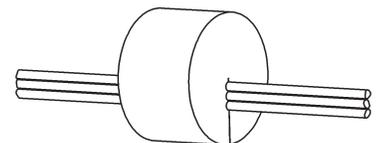

Fig. 6: Wires Through Foam Plug
• **Conduit** – Included with the Carbon Monoxide transmitter is a foam plug to seal the ½ inch EMT. Place the wires into the plug as shown in Fig. 6 and then insert the plug into the conduit sealing the conduit.